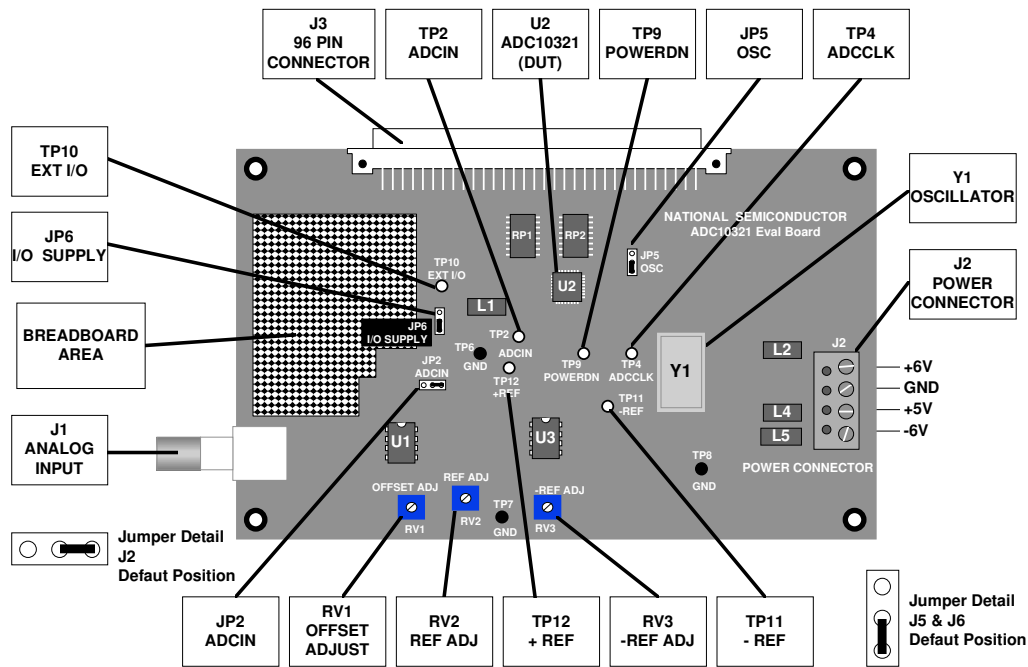
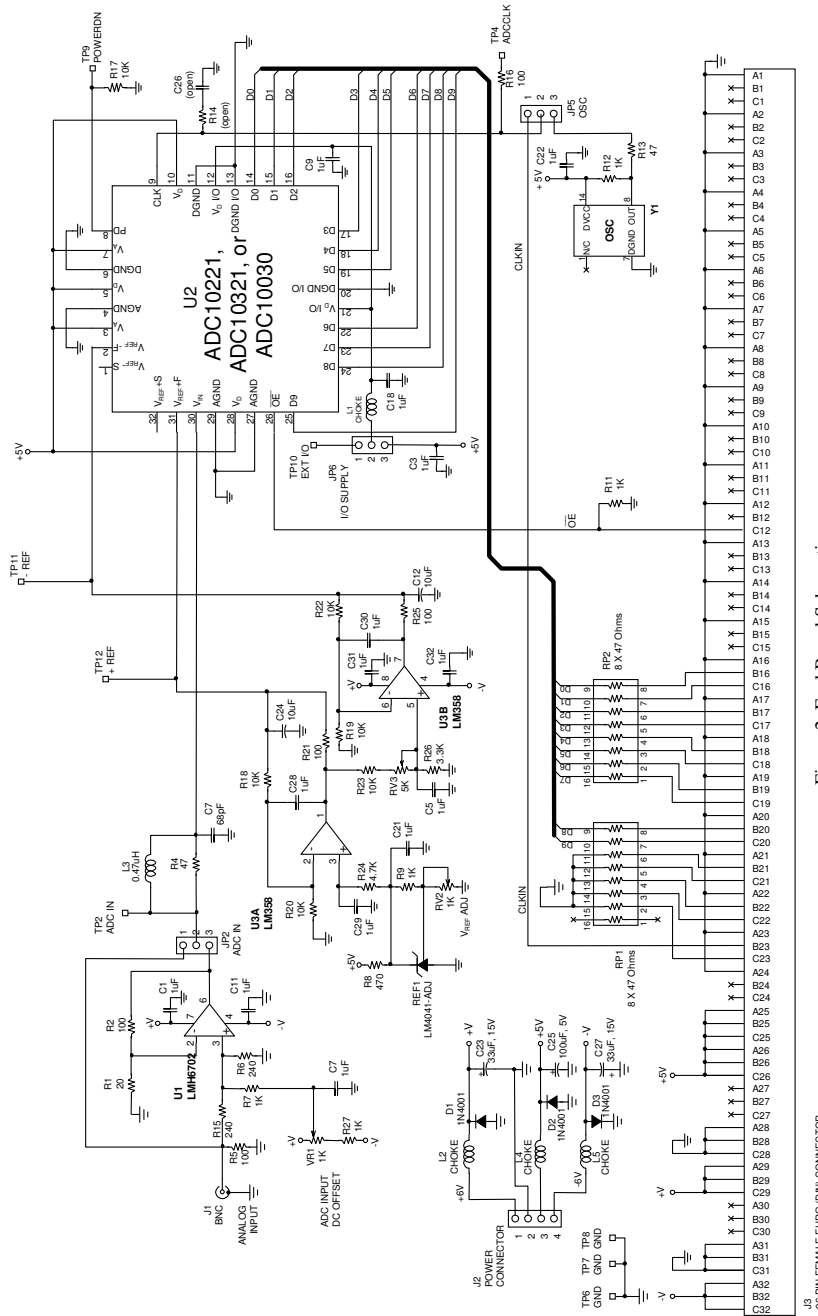

Figure 1. Component Locations. Jumpers are shown in default positions
Figure 2. Eval Board Schematic
The ADC10321 Evaluation Board comes fully assembled and ready to use. Refer to Figure 1 for the location of major components, to Bill of Materials (Section 8.0) for component description and part types and to Figure 2 for the Evaluation Board schematic.
Once the board is assembled, the following will allow you to get the board up and running quickly. The digitized signal is available at pins B16 through B20 and C16 through C20 of J3. See the Evaluation Board schematic of Figure 2 for details.
1. Be sure that all jumpers are in their default positions, as shown in Figure 1.
Figure 1 shows the block diagram of the ADC10321 evaluation board. U2 is the device under test. This board supports the ADC10221, ADC10321 and the ADC10030 Analog-to-Digital Converters.
The digital data from the ADC10321 output, as well as a clock signal for this data, is available at the 96 pin DIN Connector J3 (See *Figure 2*). Resistors RP1 and RP2 are used to isolate from any circuits or instruments that the ADC10321 drives, helping to reduce the digital noise that gets back into the analog input.
Power for the ADC10321 can come from the +5V applied to Power Input Connector J2, or from an external +5V supply applied to TP10. Selection of the ADC10321 supply source is done with Jumper JP6. See Figure 1.
Follow these steps to operate the board in the Computer mode. Refer to Figure 1.